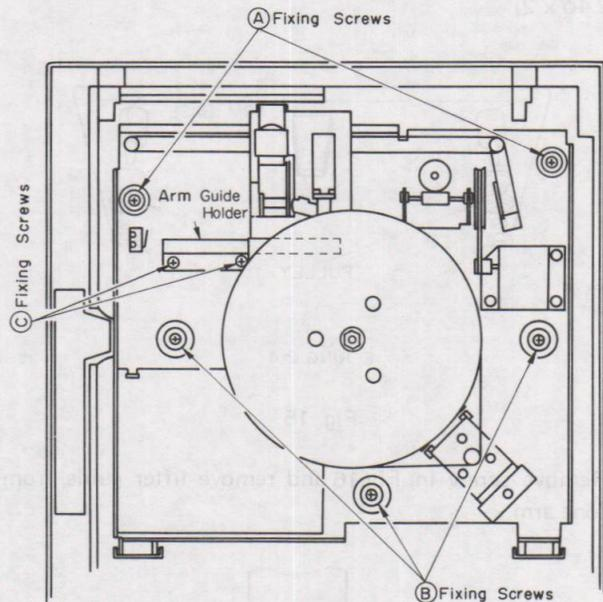

Fig. 13
- 3) Remove five player-unit fixing screws (A and B) in Fig. 13. Player unit can now be removed from cabinet main body.